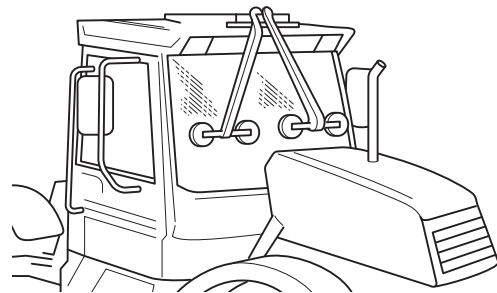

Fig 16. Typical M/c. Installation
- a Always use the special lifting tools when moving the glass. Use a lifting strap to hold large panes of glass in position. ⇒ Fig 16. \(□ 1-11\)